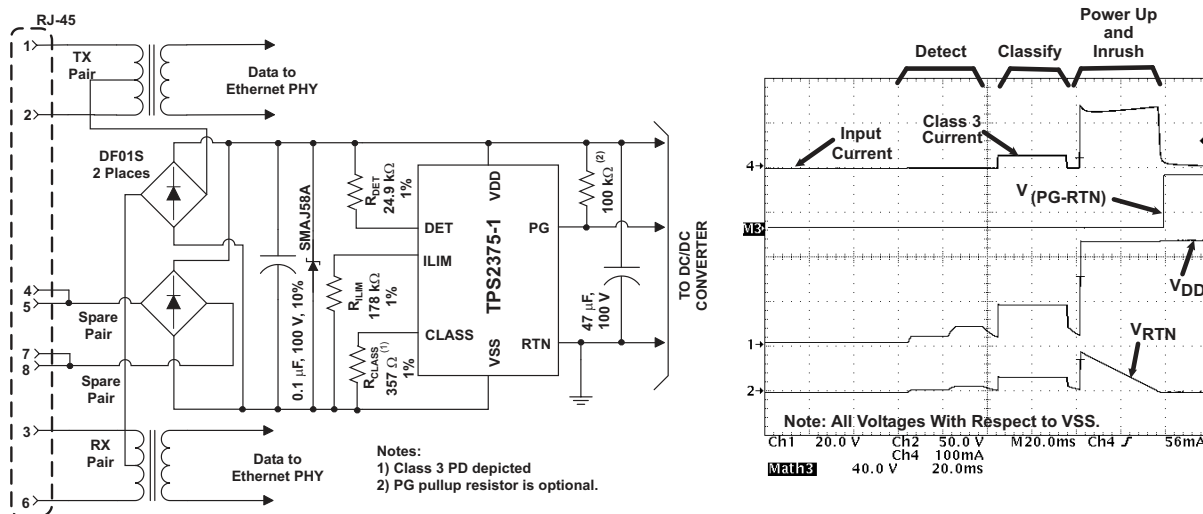

Figure 1. Typical Application Circuit and Start-Up Waveforms
(1) Stresses beyond those listed under “absolute maximum ratings” may cause permanent damage to the device. These are stress ratings only, and functional operation of the device at these or any other conditions beyond those indicated under “recommended operating conditions” is not implied. Exposure to absolute–maximum–rated conditions for extended periods may affect device reliability.
(2) I(RTN) = 0
(3) SOA limited to V(RTN) = 80 V and I(RTN) = 515 mA.
(4) Surges applied to RJ-45 of Figure 1 between pins of RJ-45, and between pins and output voltage rails per EN61000-4-2, 1999.